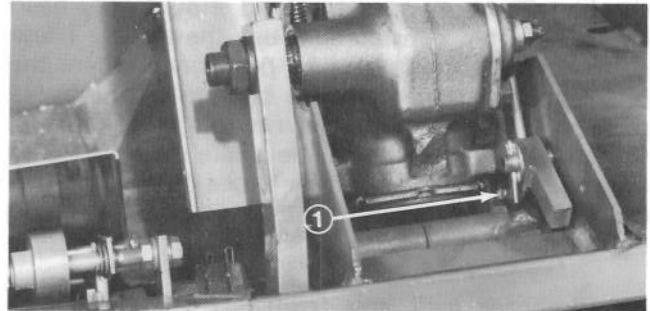
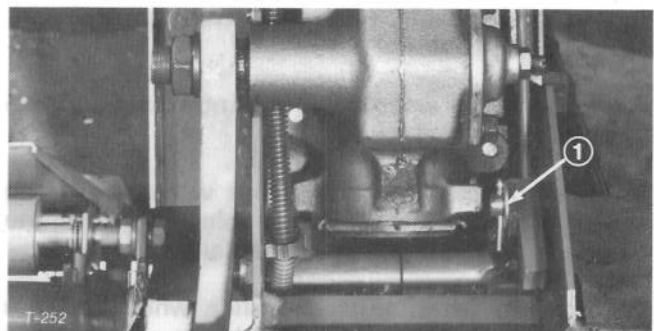

Figure 28
Figure 29
4. Remove cotter pin and flatwasher from bottom end of parking brake rod (Fig. 28) and cotter pin and flatwasher holding rack (Fig. 29). Lift up on gear box and remove brake rod from rack. Remove the other flatwasher from the rod and slide rod out of hole in the steering tower.
2. Remove cotter pin and flatwasher securing lower end of parking brake rod (Fig. 28) and cotter pin and flatwasher securing rack (Fig. 29). Lift up on gear box, slide rack outward towards gear box off the pivot pin (Fig. 29). Slide rod out of rack.